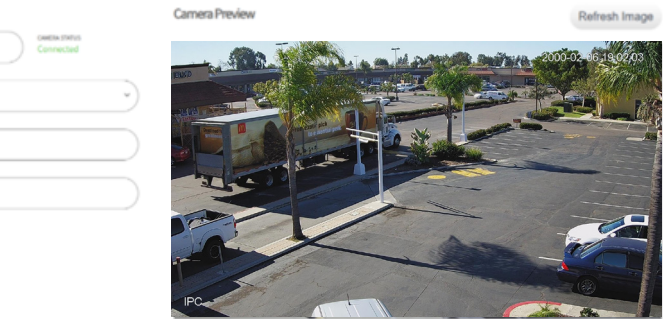

Fig. 4.2
7. The Camera Status will display “Connected” and the Camera Preview section of the page will load with the camera’s view, as shown in Fig. 4.2 (Click “Refresh Image” if the current view isn’t displayed). Press Save.